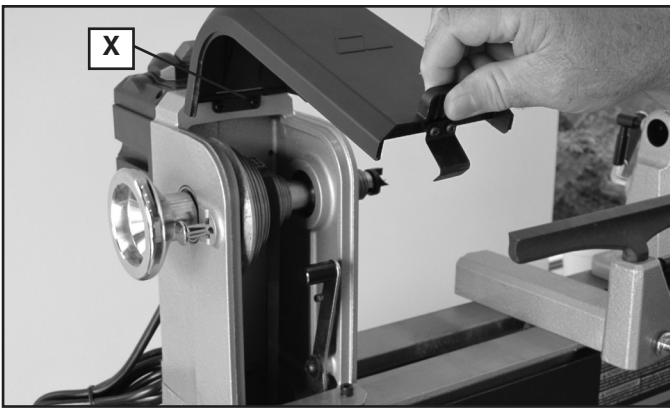

Fig. 29
1. Lift up pulley cover (X) Fig. 29.
18. Close pulley cover (X) Fig. 29 and side door (AA) Fig. 16 securely.